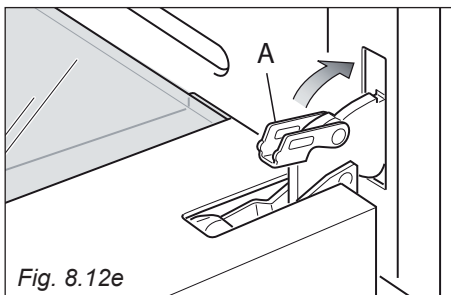

Fig. 8.12e
- Unlock the oven door by opening it completely and closing the lever "A" on the left and right hinges (fig. 8.12e).